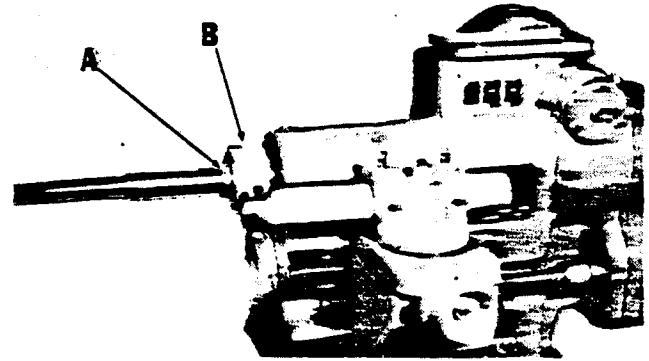

Figure 2
1. Insert the taper shank of arbor, A Fig. 2, into the spindle. Be sure the taper end of the arbor and the inside of the spindle are clean.
2. Turn arbor back and forth on taper seat before drawing it securely by tightening the arbor lock nut, B Fig. 2, with spanner wrench.